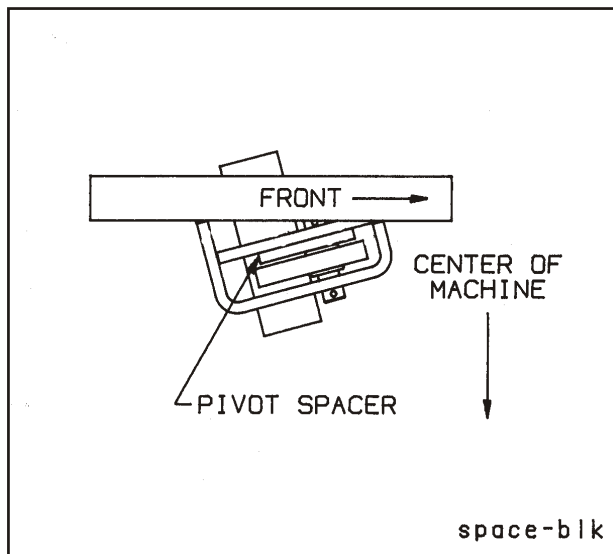

Figure 3-10 Pivot Spacer Block Installation
- Install a hitch pin through the inner mounting bracket, the ball socket of the disc frame arm and the pivot spacer (See **Figure 3-10**). Secure with cotter pins.